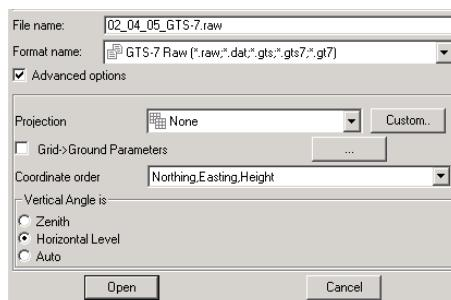

Figure E-11. Open Raw Data File
4. Select the following advanced options (Figure E-11):